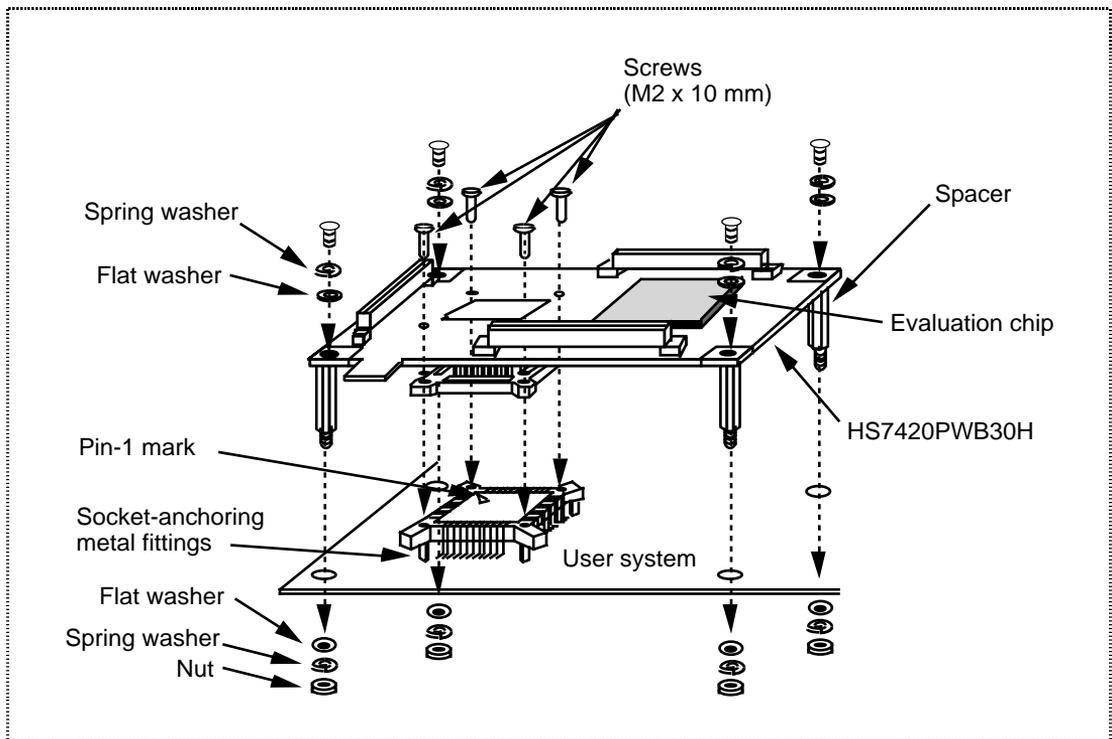

Figure 3.4 Connecting the PWB30H to the User System
6. Affix the PWB30H to the user system with the appropriate screws and nuts. See figure 3.4. Cracking due to insertion of the trace cable can be prevented in the soldered section of the socket on the user system.